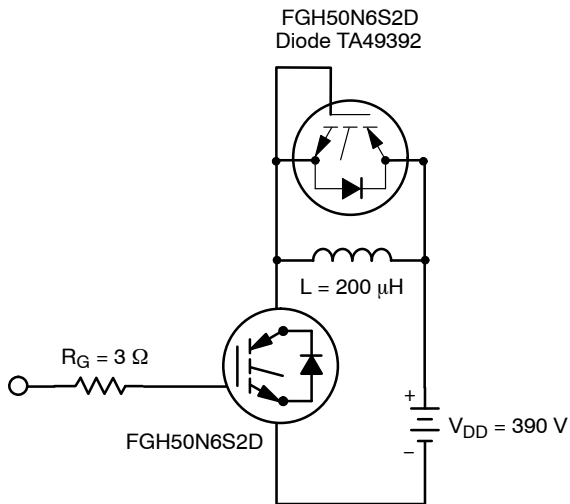

Figure 26. Inductive Switching Test Circuit
- Values for two Turn-On loss conditions are shown for the convenience of the circuit designer. E_{ON1} is the turn-on loss of the IGBT only. E_{ON2} is the turn-on loss when a typical diode is used in the test circuit and the diode is at the same T_J as the IGBT. The diode type is specified in Figure 26.